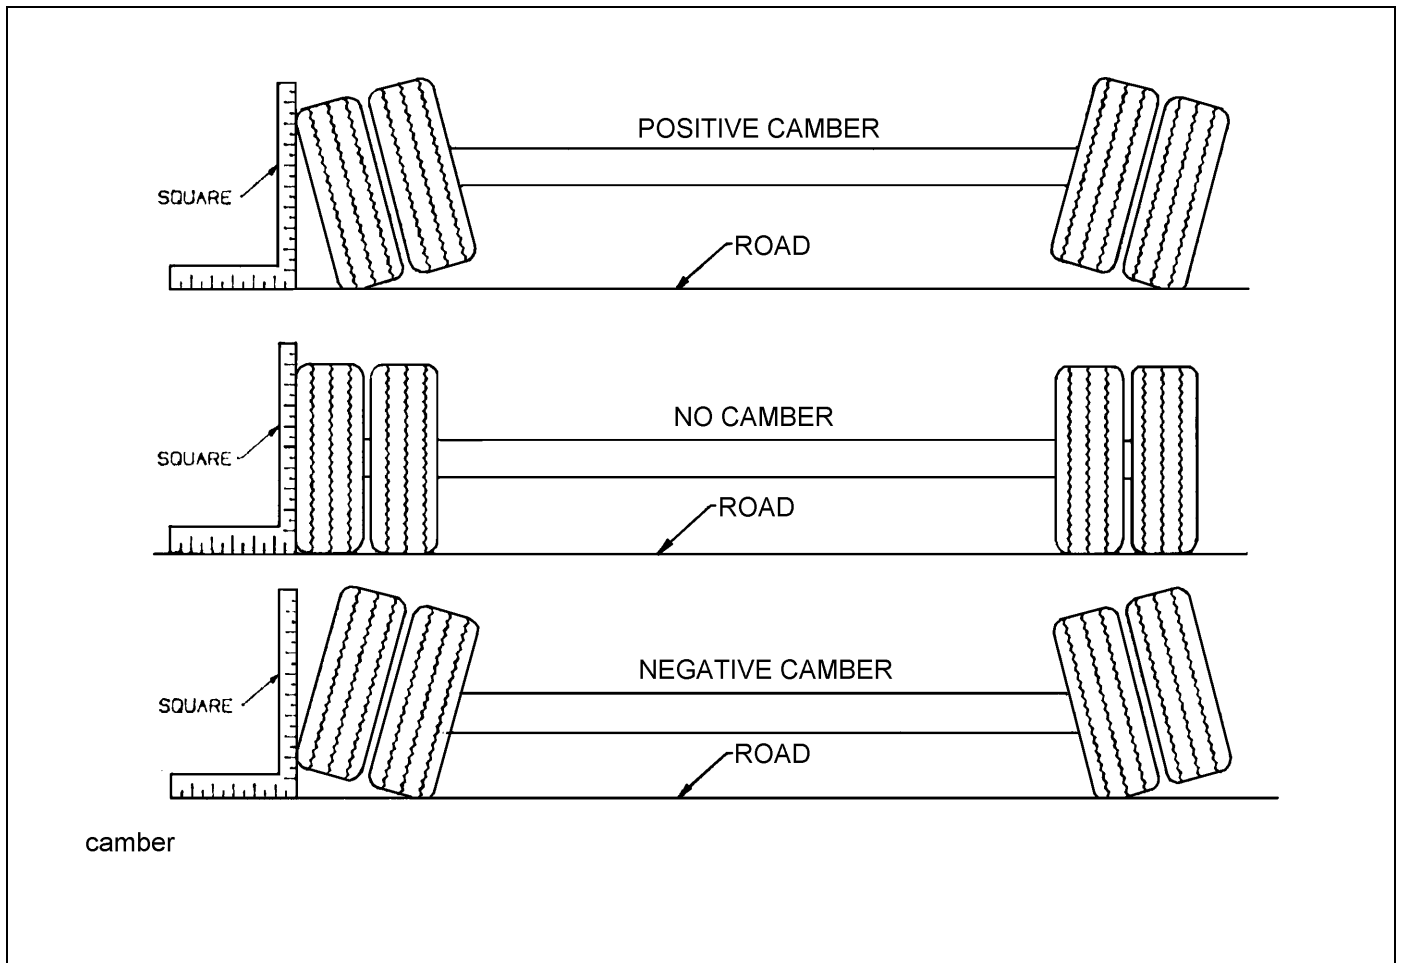

Figure 4-9: Examples of Camber
4. Follow the same procedures as in **steps 2 and 3**, except place the axle gauge above and below the axle. If gauge point gap is found, the axle has positive or negative camber. The trailer axle has no camber from the factory. If it is found to have positive or negative camber, axle replacement is necessary (See Figure 4-9 for examples of camber).